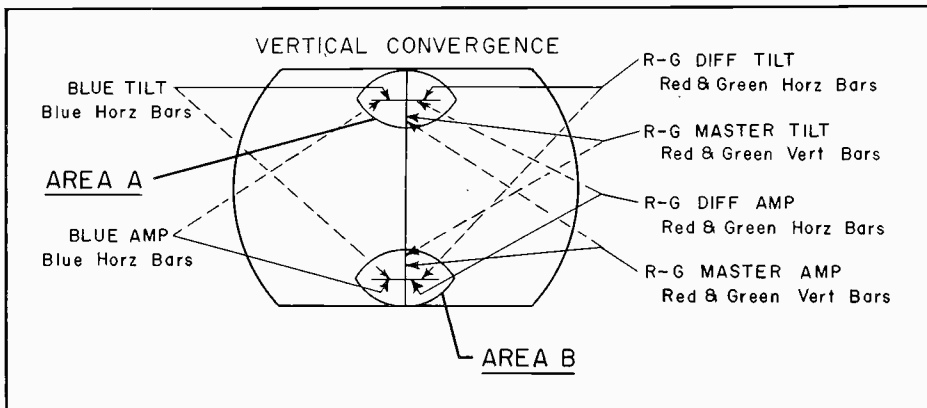
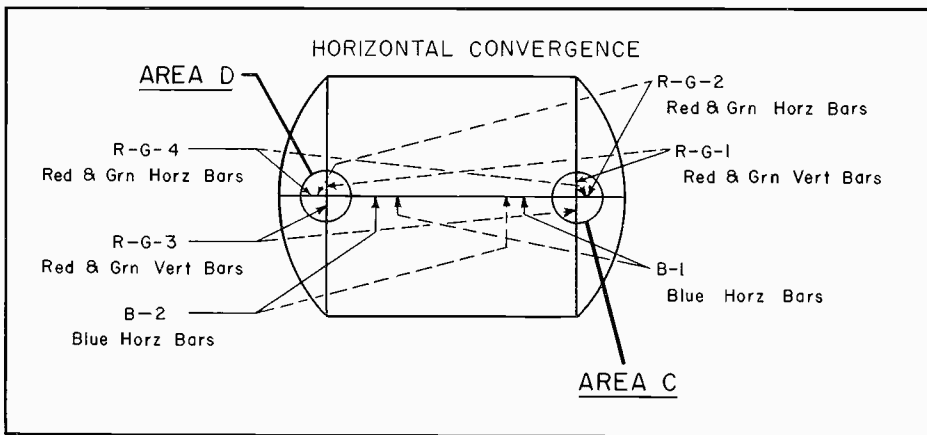

Figure 7—Areas of screen controlled by vertical dynamic convergence controls.
Figure 8—Areas of screen controlled by horizontal dynamic convergence controls.
the CTC-12 and CTC-15 chassis. Figure 7 shows the areas of the screen controlled by the vertical convergence controls. Figure 8 shows the areas of the screen controlled by the horizontal convergence controls.
4. Adjust R-G MASTER TILT to bring the red and green vertical bars together at the top of the center vertical line. (Area A in Figure 7).
5. Adjust R-G MASTER AMP to bring the red and green vertical bars together at the bottom of the center vertical line. (Area B in Figure 7).
7. Adjust R-G DIFF. TILT to bring the red and green horizontal bars together at the top center of the screen. (Area A in Figure 7.)
8. Adjust R-G DIFF. AMP to bring the red and green horizontal bars together at the bottom center of the screen. (Area B in Figure 7.)
11. Adjust BLUE TILT to converge the horizontal blue line with the red and green horizontal lines at the top center of the screen. (Area A in Figure 7.)
12. Adjust BLUE AMP to converge the horizontal blue line with the red and green horizontal lines at the bottom center of the screen. (Area B in Figure 7.)
14. Adjust B-1 to make a straight horizontal blue line from the center to the right side of the screen, Figure 8.
15. Adjust B-2 to make straight horizontal line from the center to the left side of the screen, Figure 8.
(Area C in Figure 8.)
18. Adjust R-G-2 to bring the red and green horizontal bars together at the center of the right side of the screen. (Area C in Figure 8.)
19. Adjust R-G-3 to bring the red and green vertical bars together at the center of the left side of the screen. (Area D in Figure 8.)
20. Adjust R-G-4 to bring the red and green horizontal bars together at the center of the left side of the screen. (Area D in Figure 8.)